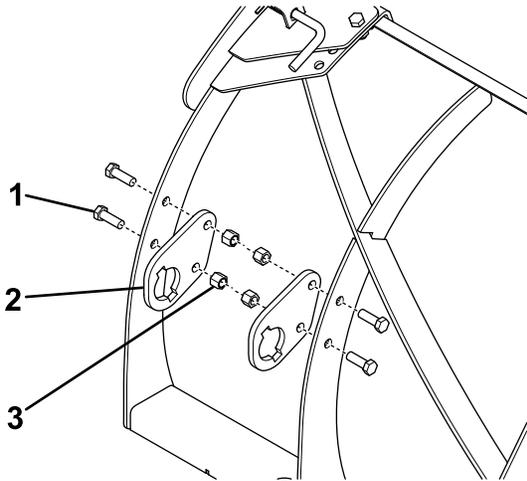

Figure 18
- Loosely attach the rib brackets to the plow using 4 bolts (1/2 x 1-1/2 inches) and locknuts (Figure 18).